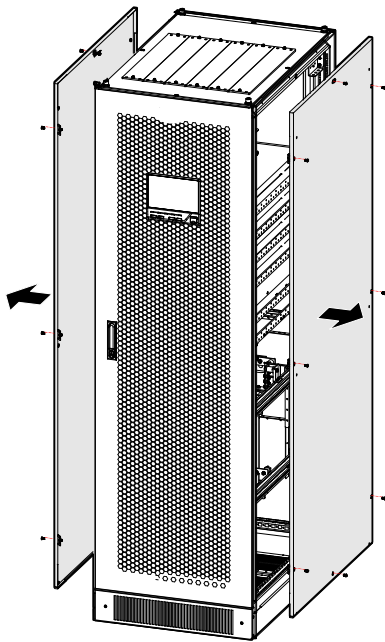

Figure3-12 Dismantle the side plates
Step 1 Dismantle the side plates, as shown in Figure3-12.